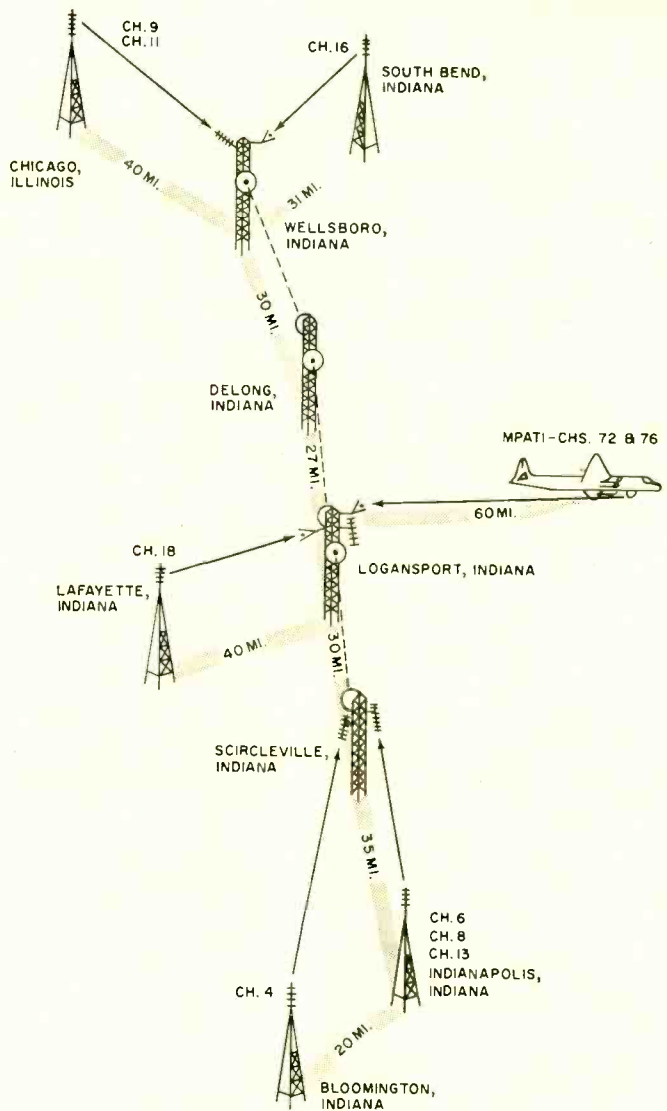

Fig. 1. The network of pickup points and microwave relay stations used to provide Logansport with multichannel TV.
Fig. 1. Circuits of four types of couplers. (A) Two-set coupler. (B) Four-set coupler. (C) High-band/low-band (v.h.f.) coupler. (D) A coupler used to separate u.h.f. from v.h.f.
Today a Logansport viewer can receive the ten stations shown on the map of Fig. 1 with only his v.h.f. receiver. In addition, he can receive six FM stations over the same cable that brings him the TV signals. As a bonus, one of the two remaining blank channels will occasionally light up with a local-interest program televised by a camera feeding directly into the cable. Table 2 gives signal strengths measured across the cable input to the author's receiver during the same 24-hour period. A step-by-step analysis of how the *Logansport Cable TV Company*, jointly owned by *Jerrold* and the *Alliance Amusement Company*, was able to effect this startling change